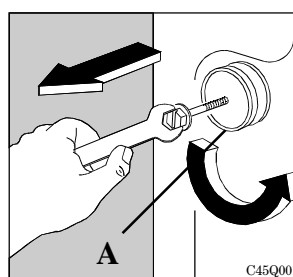

Fig 3
- On the back part and with a spanner, remove the two loosened spacers (A) (fig. 3).